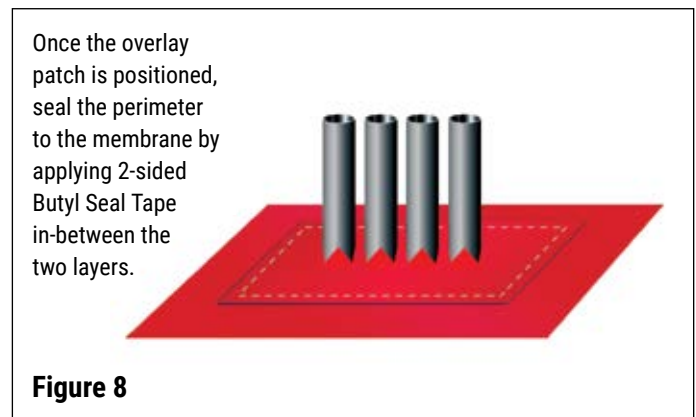

Figure 8
- D) Once the patch is positioned, seal the perimeter to the membrane by applying 2-sided Butyl Seal Tape in-between the two layers. (Fig. 8)